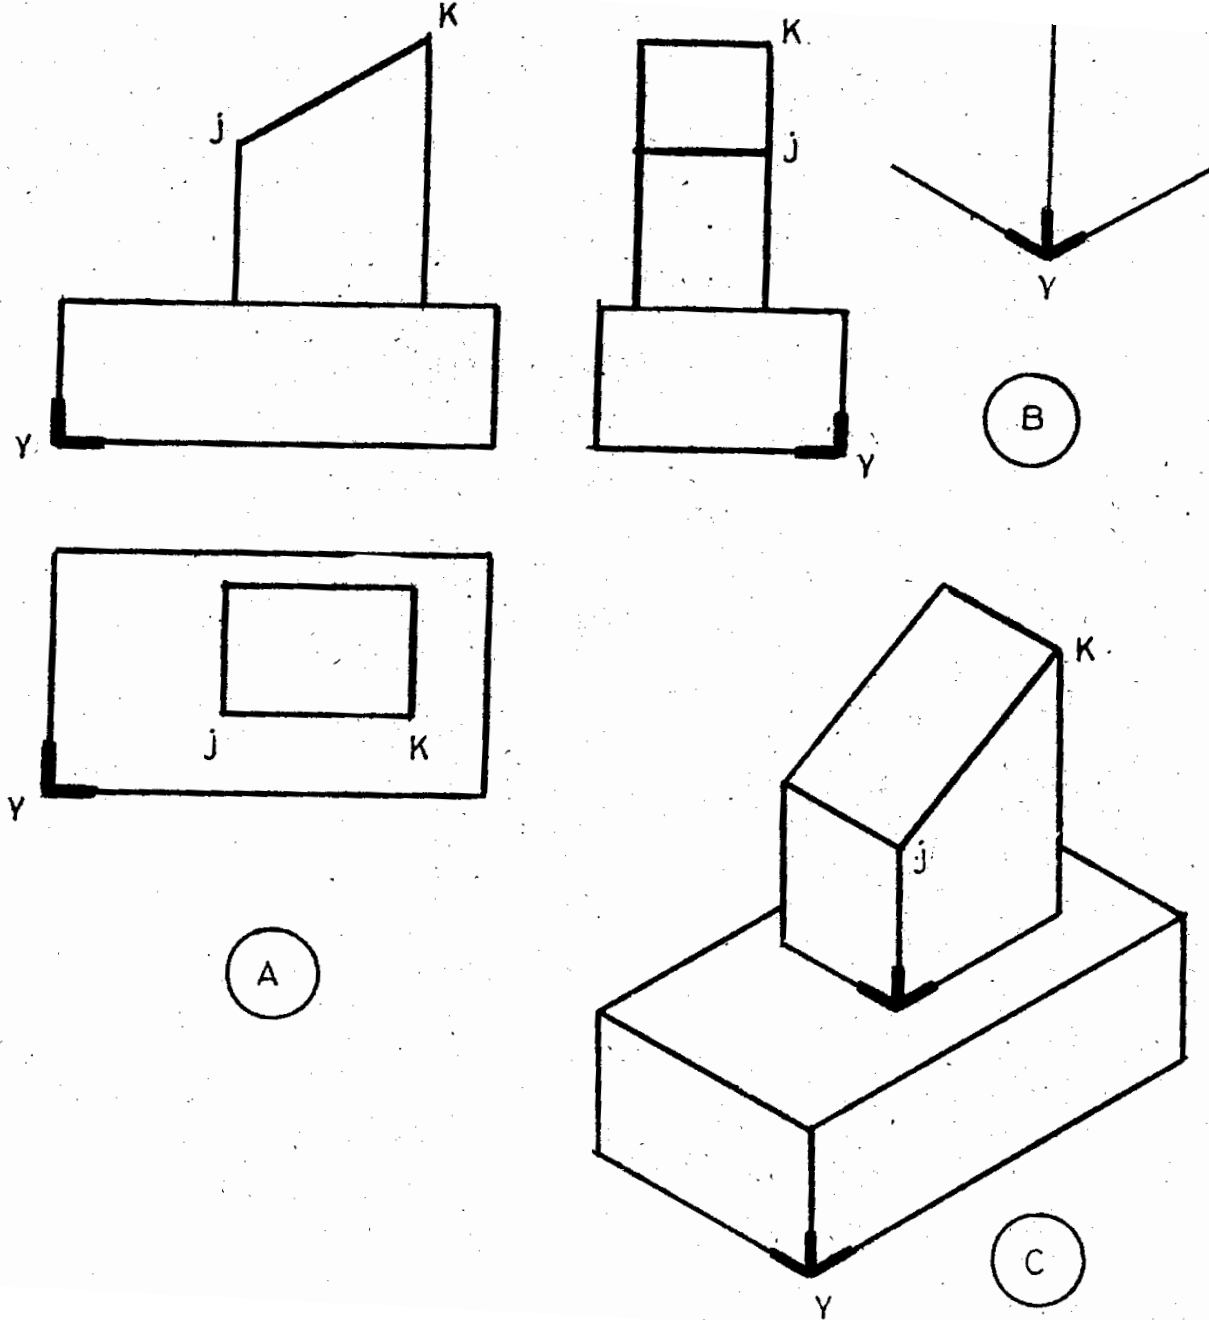

FIG.5.6
It is often convenient to built up an isometric drawing from the lower front corner (Y), as illustrated in Fig.5.6. The location of the starting corner is again shown by heavy lines at (A), (B), and (C).
Since a nonisometric line does not appear in the isometric drawing in its true length, the isometric view of each end of the line must be located and the isometric view of the line found by joining these two points.. In Fig.5.6., (A) and (C), the line JK is nonisometric edge whose true length can not be measured on the isometric drawing. However the vertical distances above the base to points J and K are parallel to the vertical isometric axes. These lines can, therefore be laid off, as shown at (C), to give the isometric view of the line JK.
When an object is made up of planes at different angles, it is better to locate the ends of the edges by the offset method rather than by boxing. When offset method is used, perpendiculars are extended from each point to an isometric reference plane. These perpendiculars, which are isometric lines, as located on the drawing by isometric coordinates, the dimensions being taken from the orthographic views. In Fig.5.6 points J and K can be located in this manner.